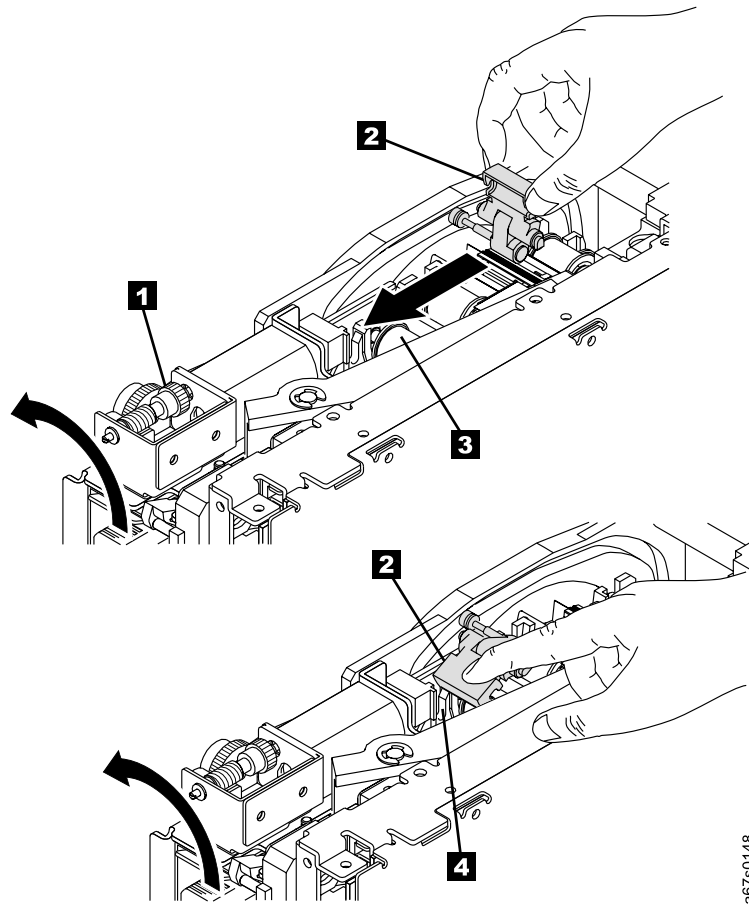

Figure 33. Guiding the leader block into the home position
10. Manually rotate the loader motor gear (see **1** in Figure 33) in the unload direction (counterclockwise) until the leader block **2** reaches the last roller **3**.